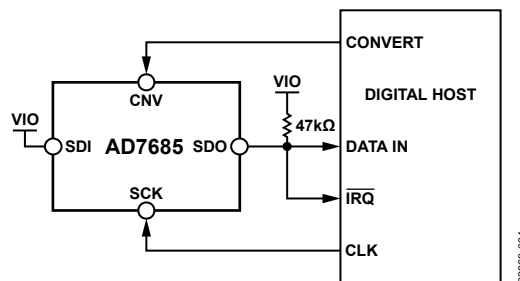
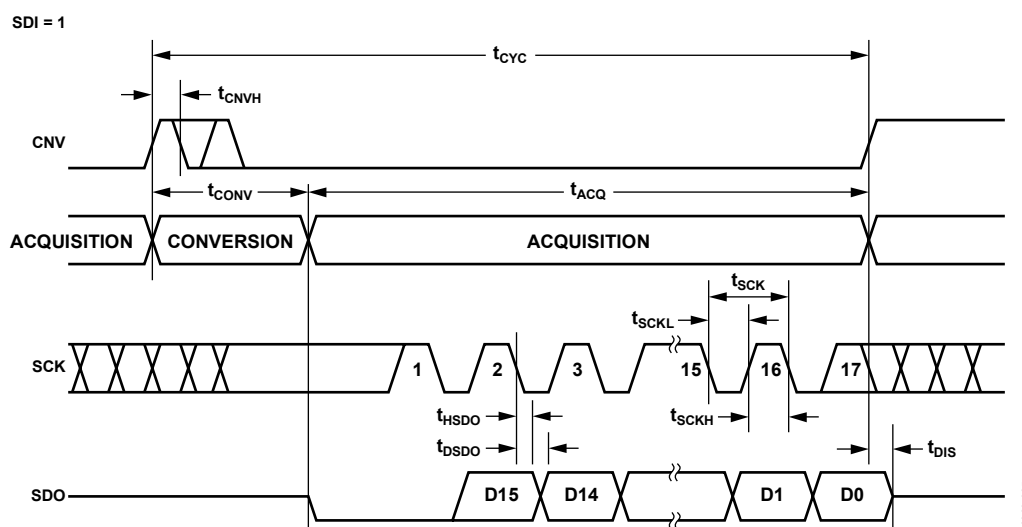
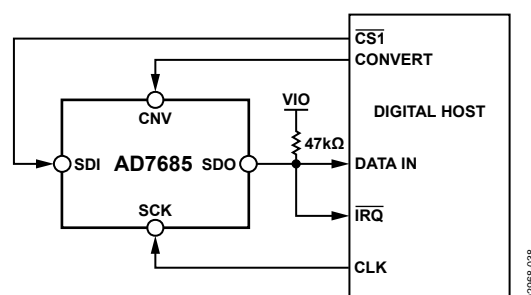
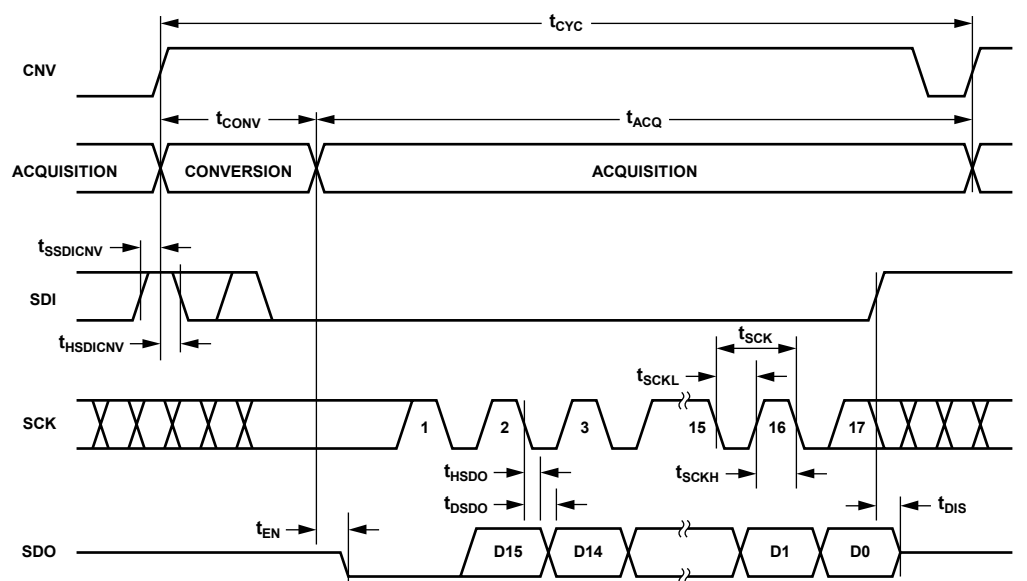

Figure 36. $\overline{\text{CS}}$ Mode 3-Wire with BUSY Indicator Connection Diagram (SDI High)
Figure 37. $\overline{\text{CS}}$ Mode 3-Wire with BUSY Indicator Serial Interface Timing (SDI High)
Figure 40. \overline{CS} Mode 4-Wire with BUSY Indicator Connection Diagram
Figure 41. \overline{CS} Mode 4-Wire with BUSY Indicator Serial Interface Timing
- In the $\overline{\text{CS}}$ mode, if CNV or SDI is low when the ADC conversion ends (see Figure 37 and Figure 41).
The connection diagram is shown in Figure 36, and the corresponding timing is given in Figure 37.
The connection diagram is shown in Figure 40, and the corresponding timing is given in Figure 41.